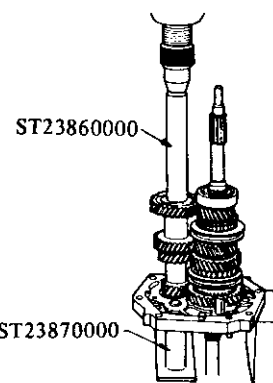

Fig. MT-35 Installing countershaft drive gear
4. Press counter drive gear onto countershaft with Counter Gear Drift ST23860000 by meshing gears and secure counter drive gear with thicker snap ring. See Figures MT-35 and MT-36.